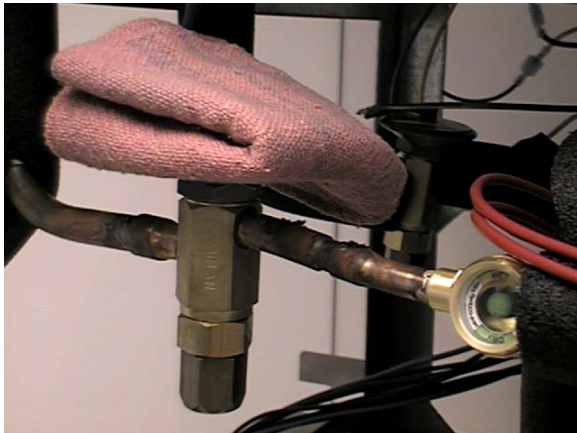

Figure 5-5 TXV Removal
- F. Apply a heat sink (wet cloth) to the valve dome (Figure 5-5).